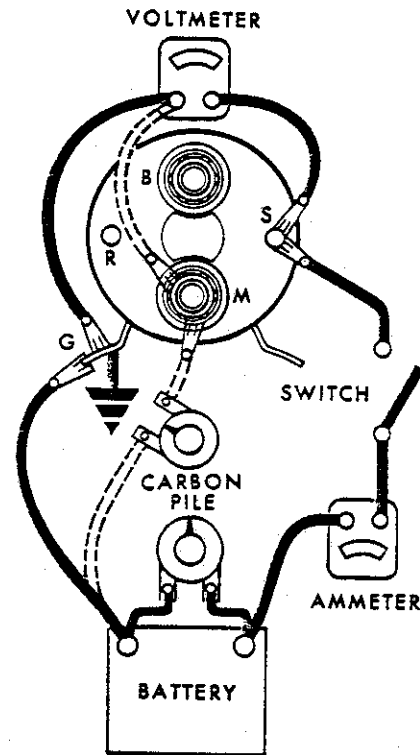

Figure 6-3. Checking Starter Solenoid
- (1) Solenoid. Disconnect all leads from the solenoid and isolate leads carefully. Make test connections as shown in figure 6-3 to solenoid switch (S) terminal and to ground (G). Use the carbon pile across the battery to decrease battery voltage to 10 volts. Ammeter reading should be 75 to 175 amps. A higher reading indicates a shorted or grounded hold-in winding, and a lower reading excessive resistance. To check the pull-in winding, connect from solenoid switch terminal (S), and to the solenoid motor (M) terminal.
If needed to reduce voltage to 10 volts, connect the carbon pile between the battery and (M) terminal as shown in dotted lines of figure 6-3 instead of across the battery as shown in solid lines. If not needed, connect a jumper directly from the battery to the (M) terminal.